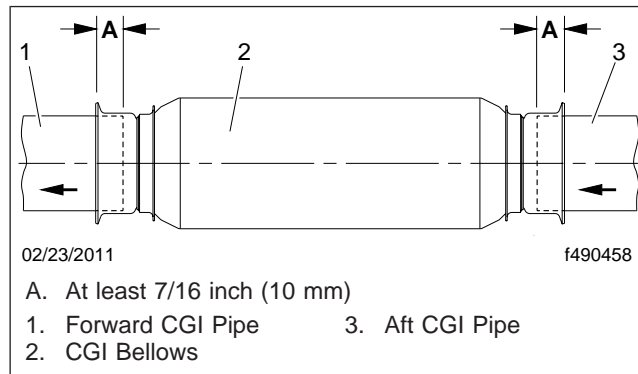

Fig. 4, CGI Bellows Installation
12. Slide the new bellows onto the aft CGI pipe as far as it will go. See Fig. 4, Ref. A. Measurement A should be at least 7/16 inch (10 mm) past the face of the flange.
16. Using the yellow marks, center the bellows between the exhaust pipes. Verify that the pipe is inserted at least 7/16 inch (10 mm) past the face of the flange. See Fig. 4, Ref. A.